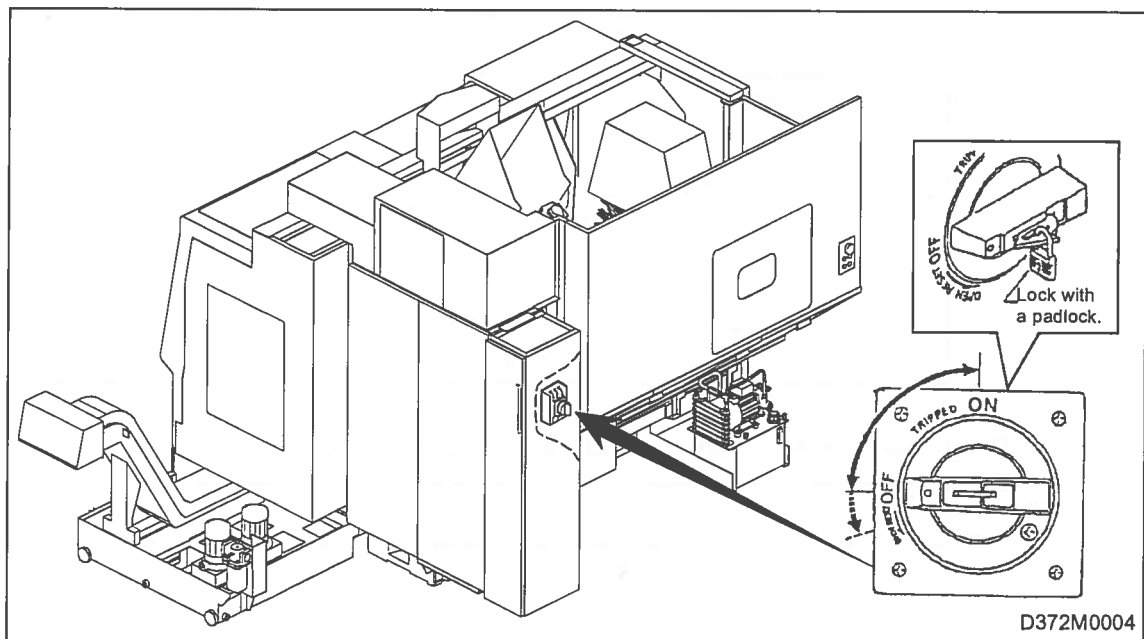

Fig. 3-1 Locking the main power breaker
- During either inspection or repair inside the control panel, lock the main power breaker in the "OFF" position using a padlock, etc. as shown in Fig. 3-1.